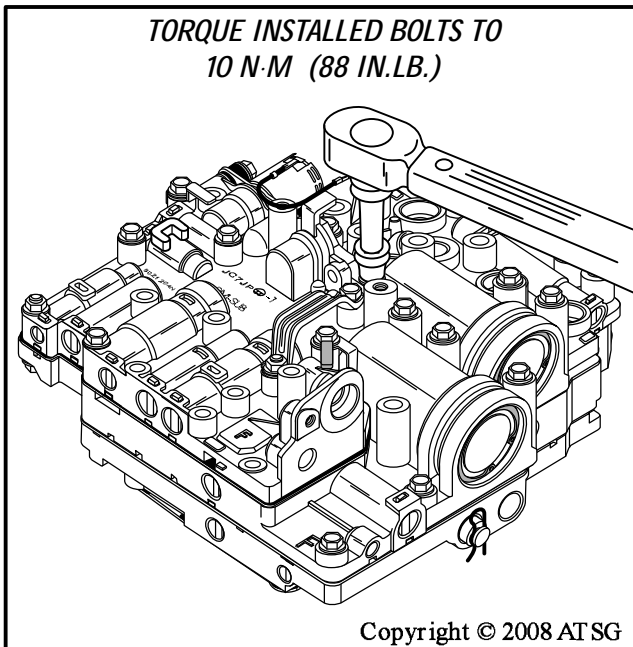

Figure 177
53. Beginning in the center and working your way outward, torque all installed valve body bolts to 10 N·m (90 in.lb.), as shown in Figure 177.